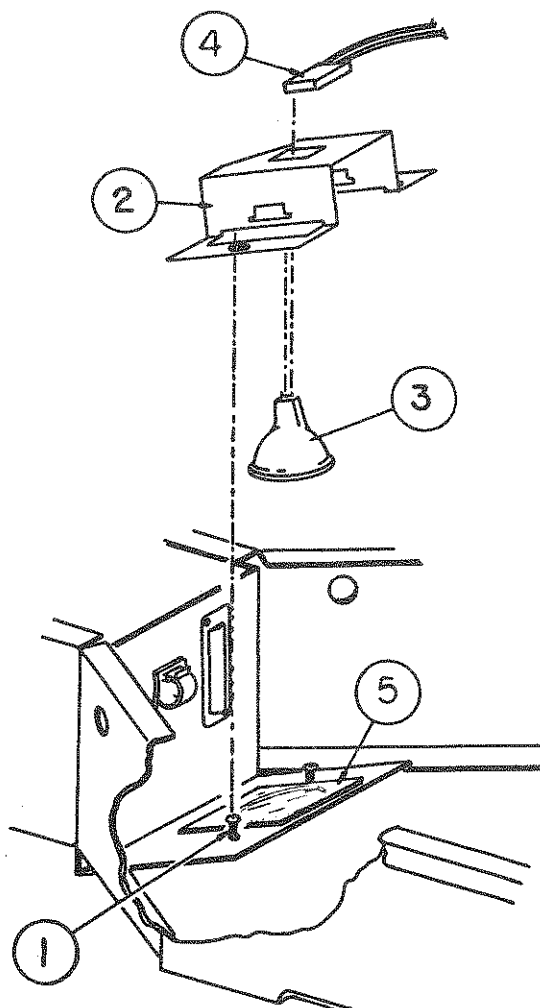

FIGURE 5.6 EXAMINATION LIGHT REMOVAL AND REPLACEMENT
2. REFER TO FIGURE 5.6 and unplug the connector (4) from the lamp (3).
3. REFER TO FIGURE 5.6 and loosen (do not remove) the two screws (1) that secure the lamp mounting bracket (2) to the Warmer Module Subassembly and remove the lamp mounting bracket and lamp. Use care to ensure that the window glass (5) is not dislodged during removal.